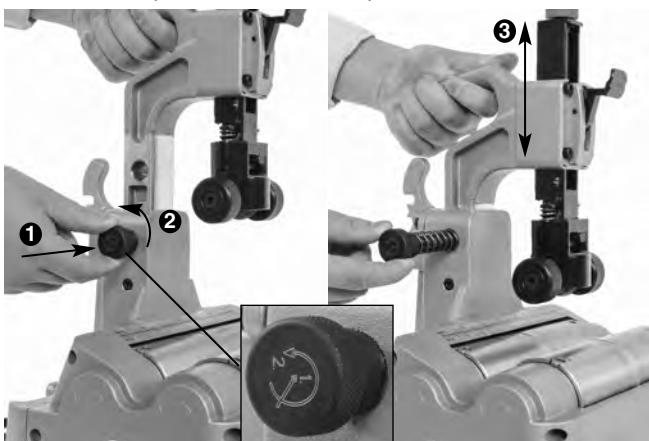

Figure 6 – Quick Switch Size Adjustment
- With no tube in cutter, grasp grip and release the pin by slightly depressing the knob **1** and turning slightly counter-clockwise **2**. The knob is spring loaded and will retract, control the movement of the knob. See Figure 6.